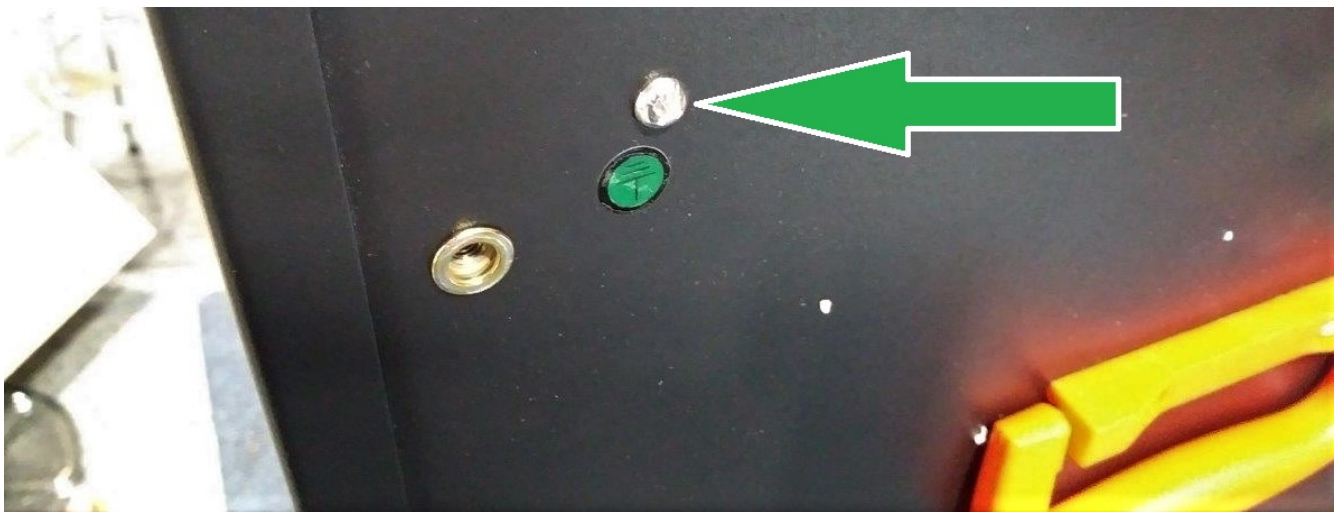
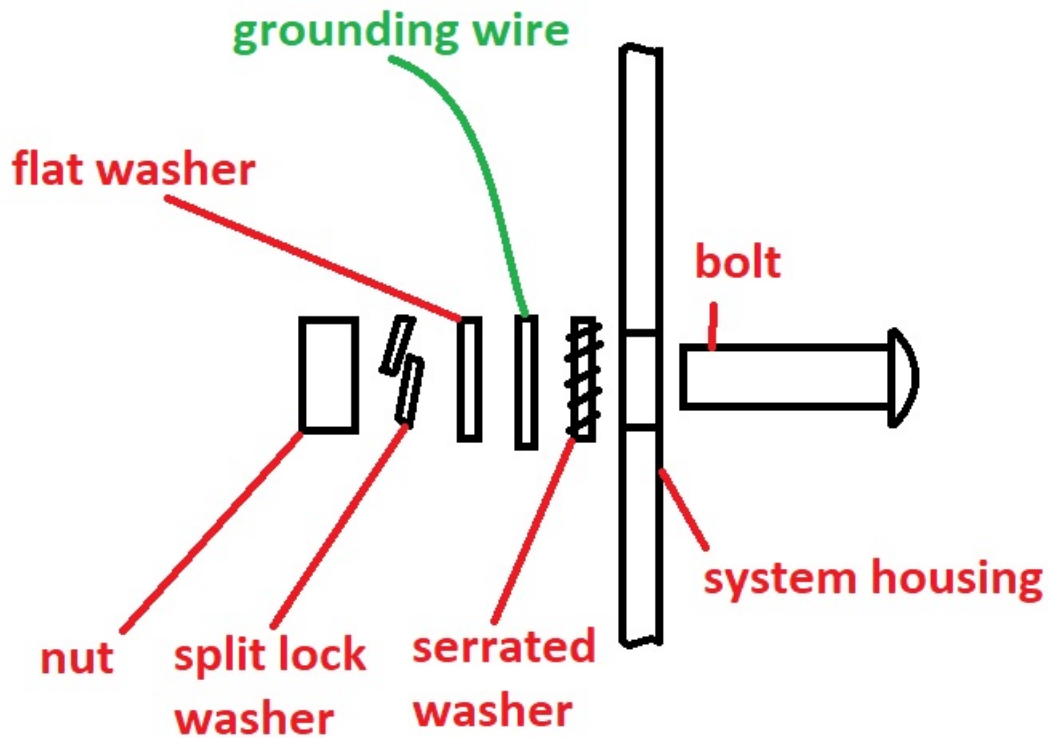

Figure 3: Grounding bolt, indicated by green arrow.
Figure 11: Assemble grounding bolt as shown here.
4. Set the screws aside. Look on the top of the unit near the handle. Notice the grounding bolt shown in Figures 3 and 4 below.
13. Re-assemble the unit by following the above steps in reverse order. Press the label that was removed in step 9 back into its original location. When re-assembling the grounding wire and grounding bolt (refer to steps 4 & 5, Figures 3 & 4), assemble it in the order shown in Figure 11 below (from left: nut, locking washer, flat washer, grounding wire, serrated washer, housing, bolt).